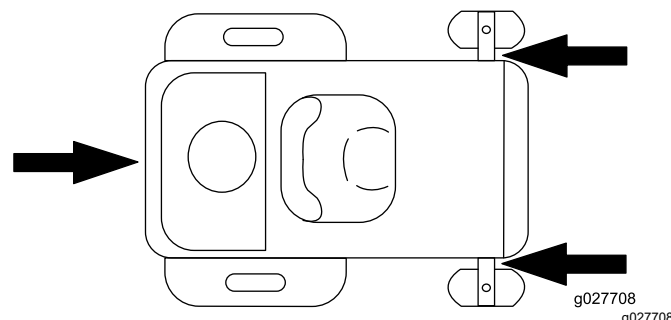

Figure 31
6. Tie down the machine near the front caster wheels and the rear frame with straps, chains, cable, or ropes (Figure 31). Refer to local regulations for tie-down requirements.